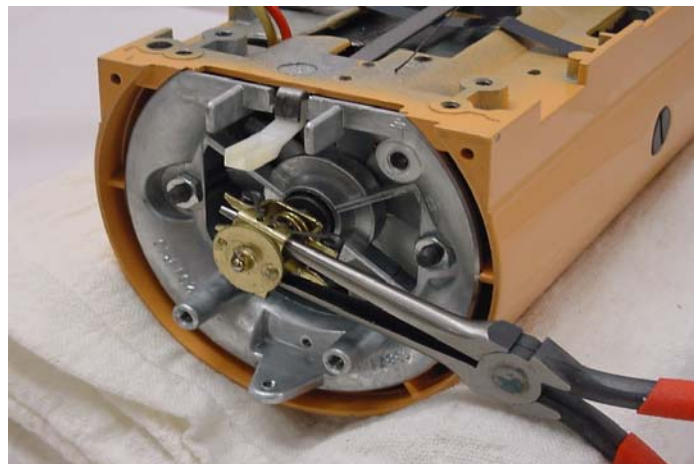

Fig. 21 Needle nose plier used to pry governor off the motor shaft.
C. With a pair of needle nose pliers, carefully pry off the governor assembly. (Fig. 21) Do NOT bend.